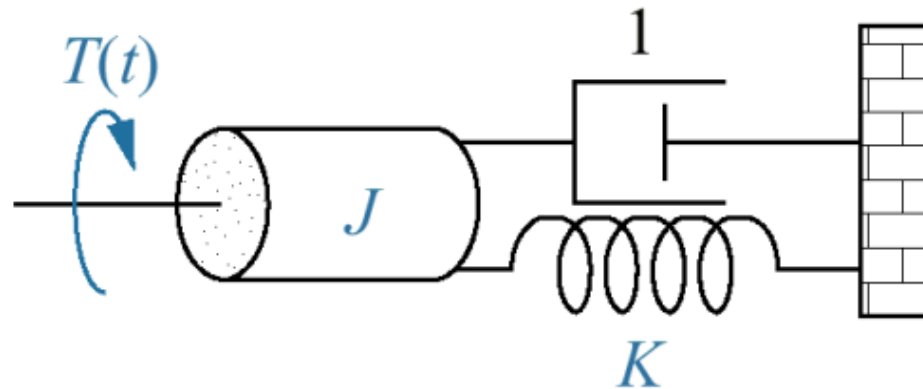

Figure 1: Rotational mechanical system.
- Q1 (a) Given the rotational mechanical system of Figure 1, where damper, $D = 1$ and $T(t)$ is a unit step.